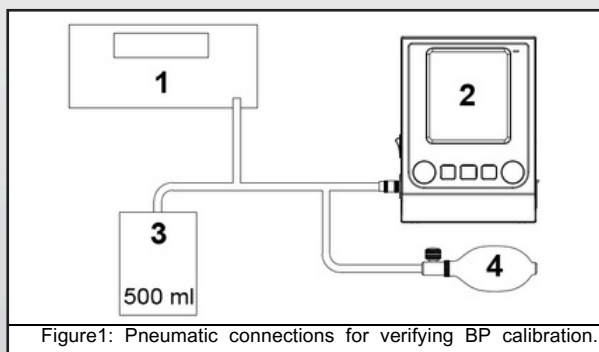

Figure1: Pneumatic connections for verifying BP calibration.
9.4.1.6 Make the necessary connections using the materials listed in the Equipment Required list. See Figure 1 for pneumatic connections.